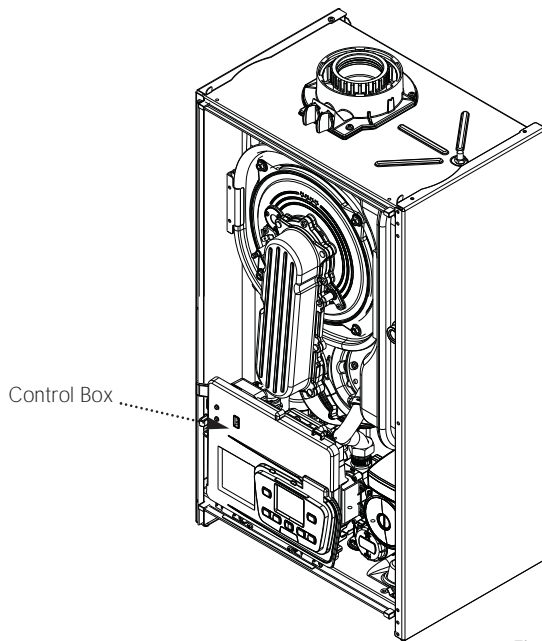

Fig. 34
2. Disengage the securing tab and hinge the control box downwards. Undo the terminal block cover securing screw and remove the cover (Fig. 34).